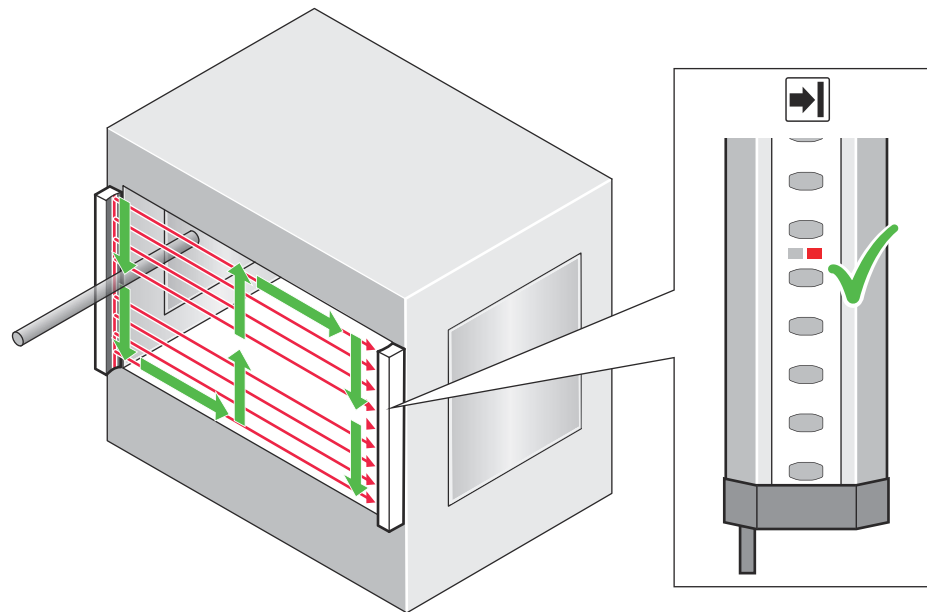

Figure 18: Test rod check: Step 1
1. Move the test rod slowly through the area to be protected (e.g., machine opening), as indicated by the arrow, see figure 18, page 29.